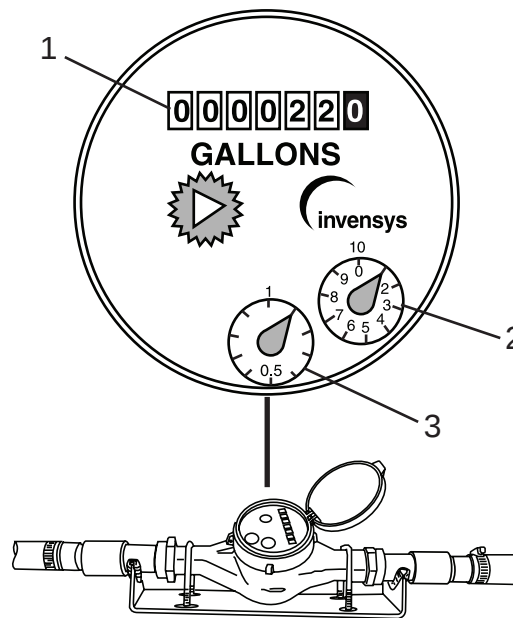

Figure 96
The Precision PMM™ water meter (Figure 96) is installed directly in the water supply line to monitor the amount of water used.
- a. Record the reading from the counter (Figure 96, Item 1), in this case 220 gallons (833 liters).
- b. Add the reading from the sweep hand on the “10” counter (Figure 96, Item 2), in this case 1 gallon (3.8 liter).
- c. Add the reading from the sweep hand on the “1” (tenths of a gallon) counter (Figure 96, Item 3), in this case 0.1 gallon (0.4 liter). The actual reading of the meter is 221.1 gallons (836 liters).